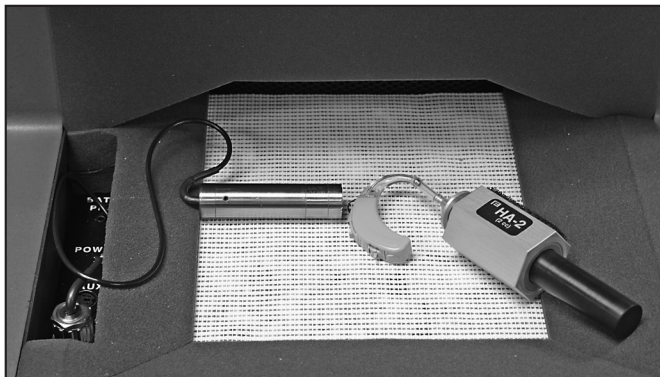

Figure 5.1.2A—Setup for leveling
4. Place the test microphone as close as practical to the hearing aid microphone (3-5 mm). See Figure 5.1.2A.